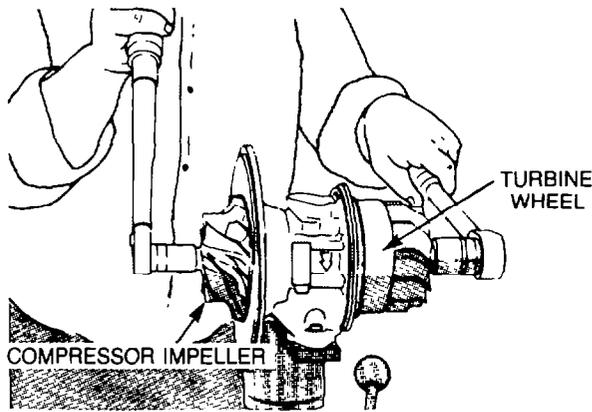

Figure 152 — Compressor Impeller — Installation
- l. Install the compressor impeller (item 26) on the turbine shaft (item 2) and secure in position with the compressor impeller nut (item 27).
- m. Secure the turbine wheel and shaft (item 2) with a socket (see Fig. 152), then torque the compressor impeller nut (item 27) to 41 Nm (30 lb.ft).